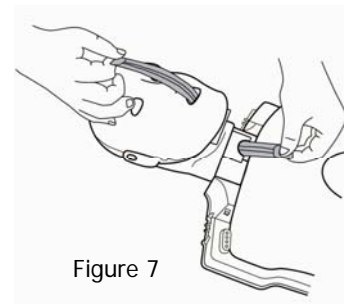

Figure 7
7. Grasp the lung bag and pull it through the neck (Figure 7).